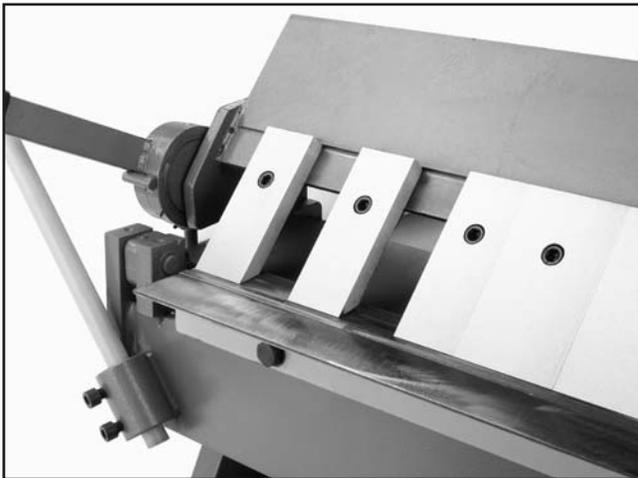

Figure 11. Fingers removed to provide space for matching fingers with box or pan widths.
2. Pull the fingers off of the front guide, as shown in **Figure 11**, and set them aside.